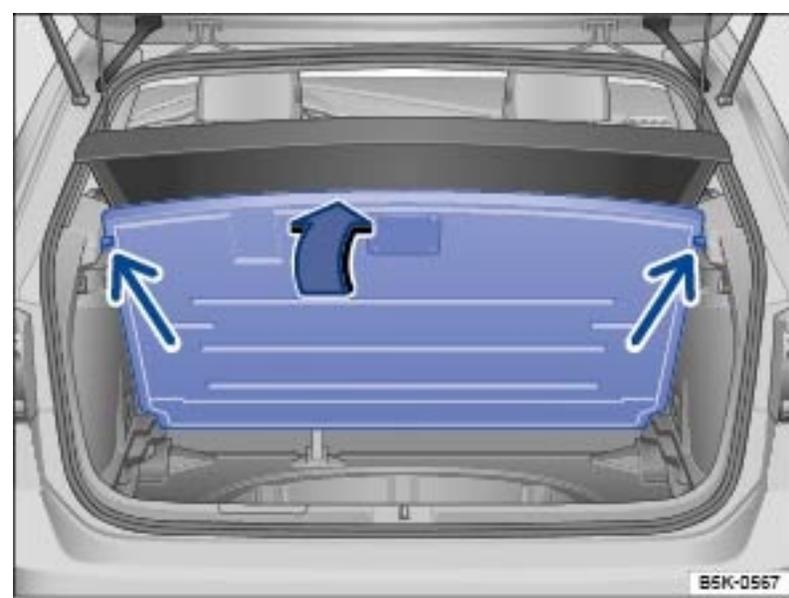

Fig. 207 In the luggage compartment: Floor covering raised and secured.
- Lift the floor covering and secure it in the stops on either side of the luggage compartment → Fig. 207 (small arrows).